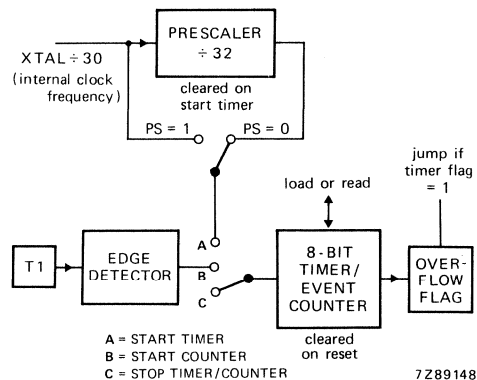

Fig. 15 Timer/event counter.
**Timer/event counter** (see Fig. 15)